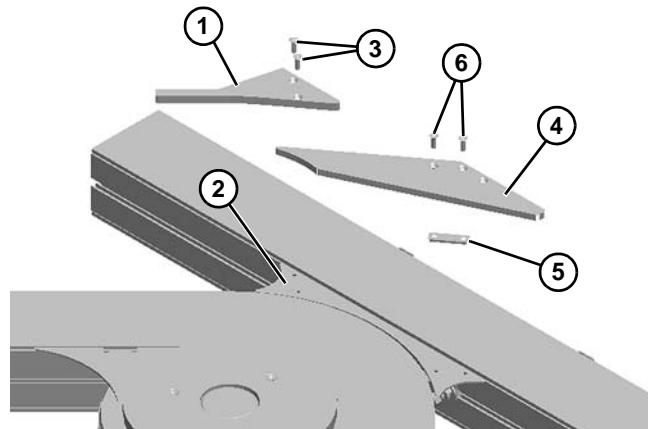

Figure 48
6. Install 45 degree corner guide (**Figure 48, item 1**) to conveyor tie plate (**Figure 48, item 2**) with two flat head screws (**Figure 48, item 3**).
7. Install corner guide (**Figure 48, item 4**) to conveyor tie plate (**Figure 48, item 2**) with spacer (**Figure 48, item 5**) and two flat head screws (**Figure 48, item 6**).